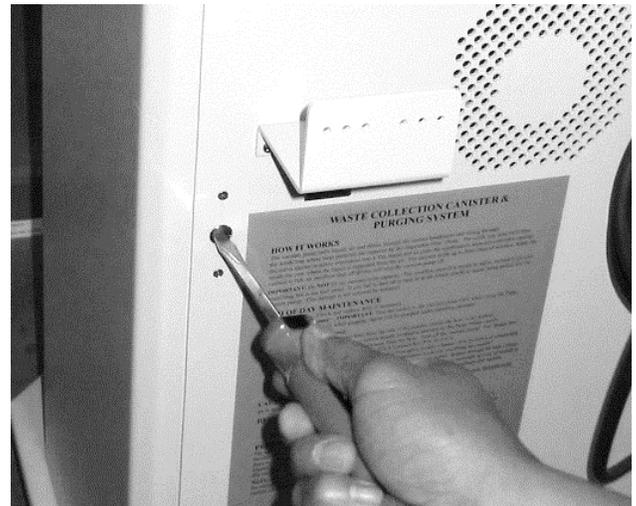

Fig. 1
- 4 Open back panel of unit using a flat head screwdriver. There are two quick-turn screws on the back of unit. Move suction tube and electrical cord out of the way of back door. (Fig. 1)